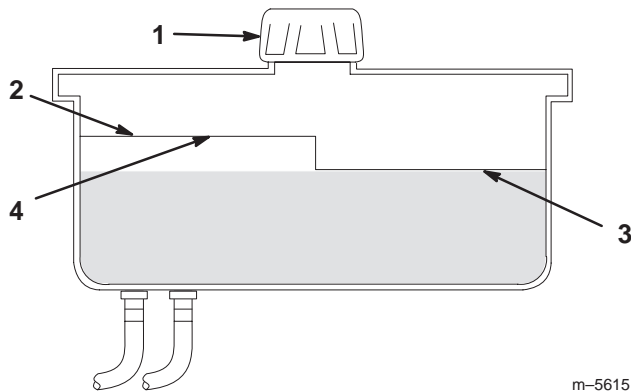

Figure 51
2. Clean area around filler neck of hydraulic tank (Fig. 51).
3. Remove cap from filler neck. Look inside to check if there is fluid in the reservoir. (Fig. 51).
Note: The fluid level should be to the top of the *hot* level of the baffle, when the fluid is warm (Fig. 51).